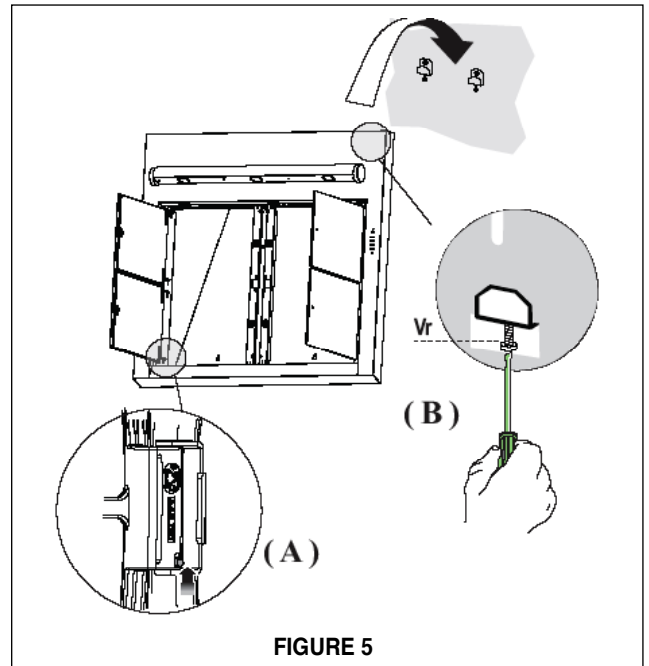

**FIGURE 4**
3. Draw a horizontal line at 43" above the cooktop (as indicated in **FIGURE 4**). Mark two points (1) (in **FIGURE 4**) on the horizontal line, 7 7/8" away from the center line on each side. Make sure both marks are level.
4. Mark two points (2) (in **FIGURE 4**) which are 19 7/16" above the cooktop, and are 7 1/16" on either side of the center line. Make sure both marks are level.
5. In holes (1) (in **FIGURE 4**) attach the two mounting brackets (B) to the wall with 2 mounting screws.
6. In holes (2) (in **FIGURE 4**) put one safety screw (G) in each hole, do not tighten the screws all the way.
5. Tighten the safety screws (Hole 2, in **FIGURE 4**)